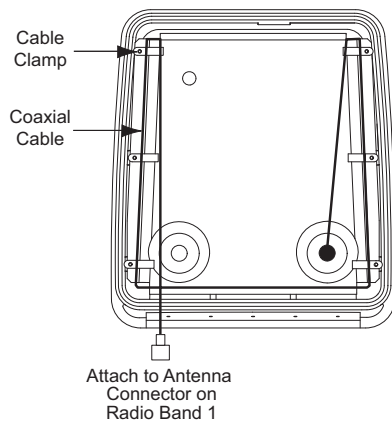
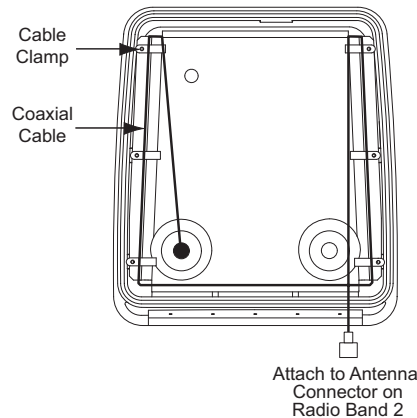

Figure 5-12. Routing the Coaxial Cable for Band 1
Figure 5-13. Routing the Coaxial Cable for Band 2
13. Route the coaxial cable for the 7/800, VHF or UHF antenna(s) through the cable clamps per Figure 5-12 for Band 1 and Figure 5-13 for Band 2.